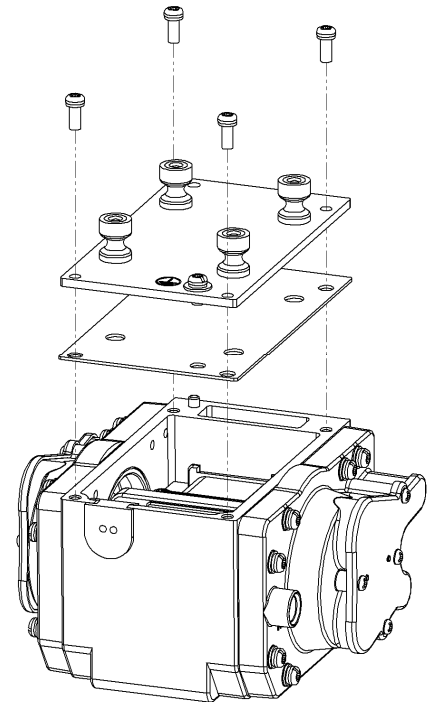

Figure 1
- A. Loosen the four screws around the steel cover, and take the cover off. (As shown in figure 1)